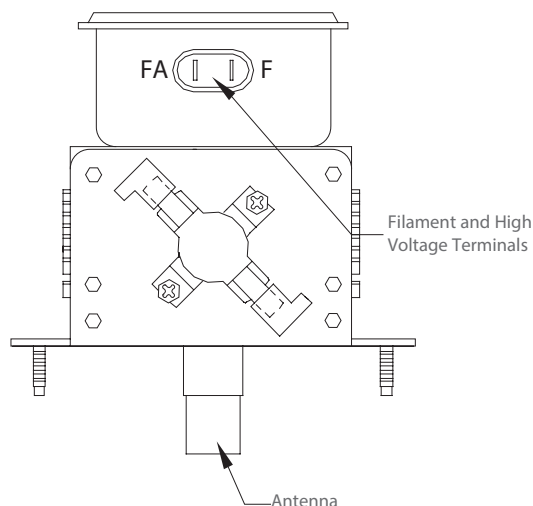

Figure 37: Magnetron
Figure 37. Magnetrons supply the RF energy at 2.45 GHz and begin to oscillate when they are supplied with approximately 4.1 kVDC at approximately .350 mA. During operation, each magnetron will output a nominal 1 kW of power.
2. Isolate the magnetron from the circuit by removing the wires from the F and FA terminals. Figure 37.
3. An ohmmeter connected between the filament terminals (F, FA) should indicate a reading of less than 1 ohm. Figure 37.